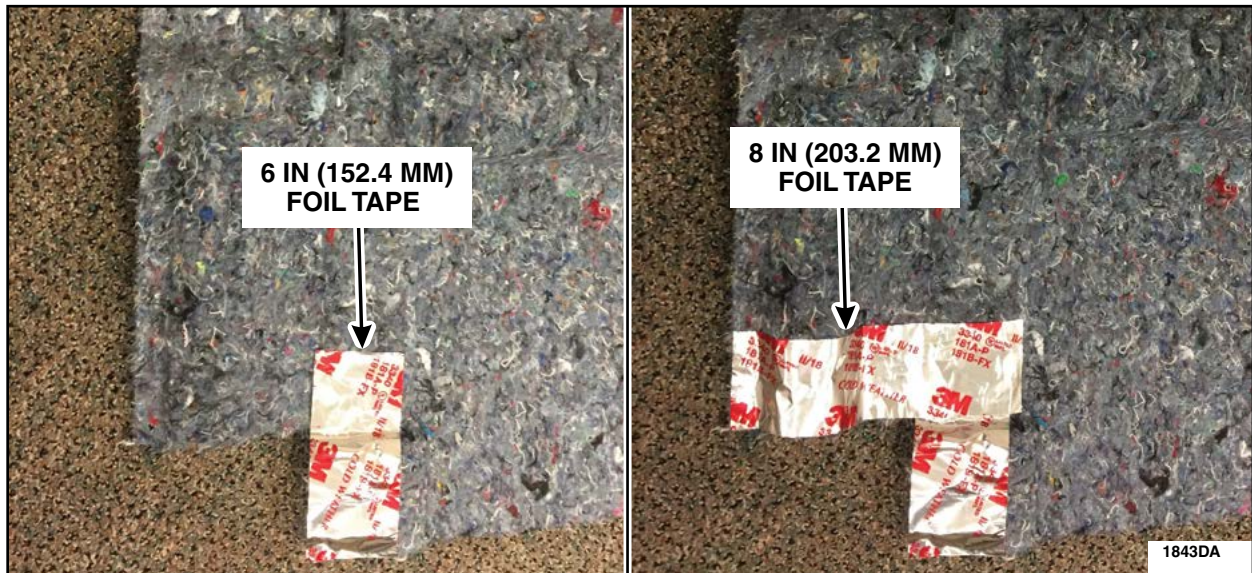

FIGURE 10
2. Remove the paper backing and apply the 6 in (152.4 mm) foil tape to the rear surface of the panel starting at the outboard bottom corner of the panel with the bottom edge of the tape aligned with the bottom edge of the panel and the edge of the tape aligned with the outboard edge of the notch. See Figure 10.
3. Remove the paper backing and apply the 8 in (203.2 mm) foil tape to the rear surface of the panel, starting at the outboard corner of the panel, with the bottom edge of the tape aligned to the bottom edge of the notch in the panel, and the edge of the tape aligned with the outboard edge. See Figure 10.